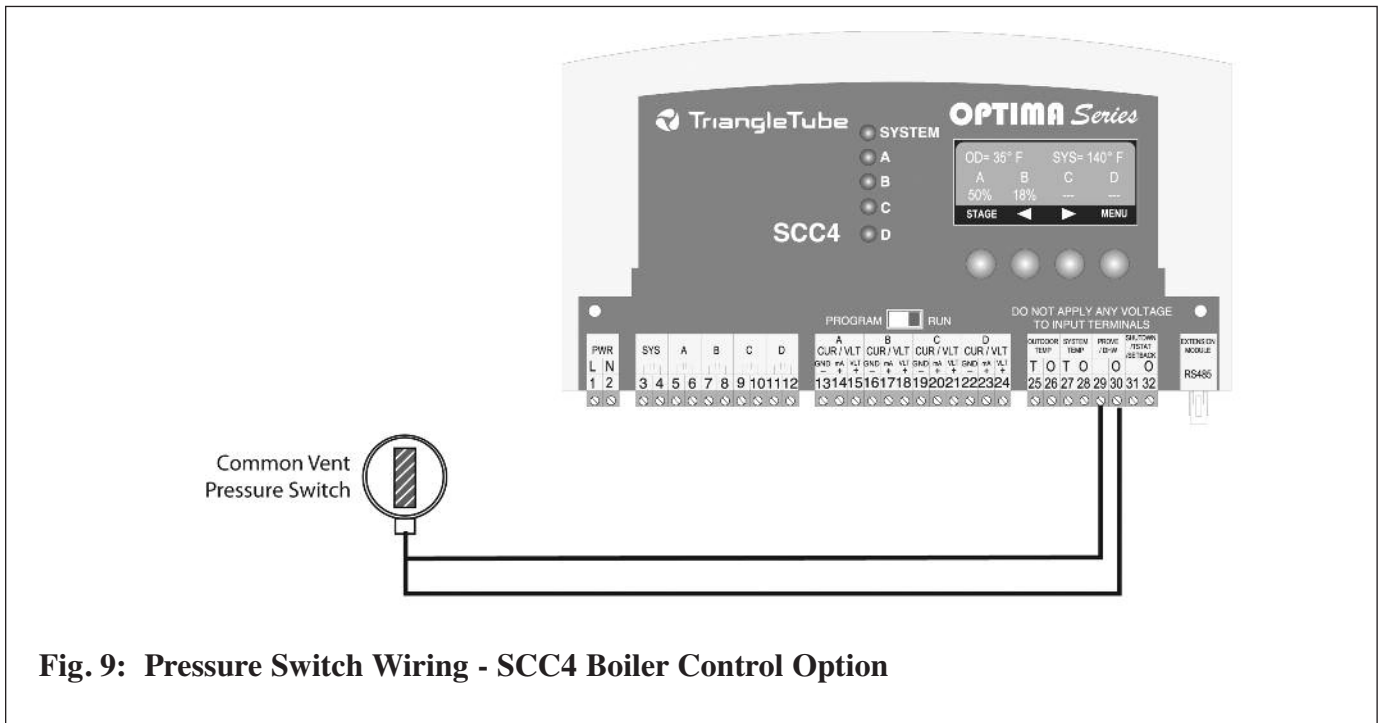

Fig. 9: Pressure Switch Wiring - SCC4 Boiler Control Option
- Use terminals 29 and 30 on the SCC4 terminals as shown in Fig. 9, page 12.